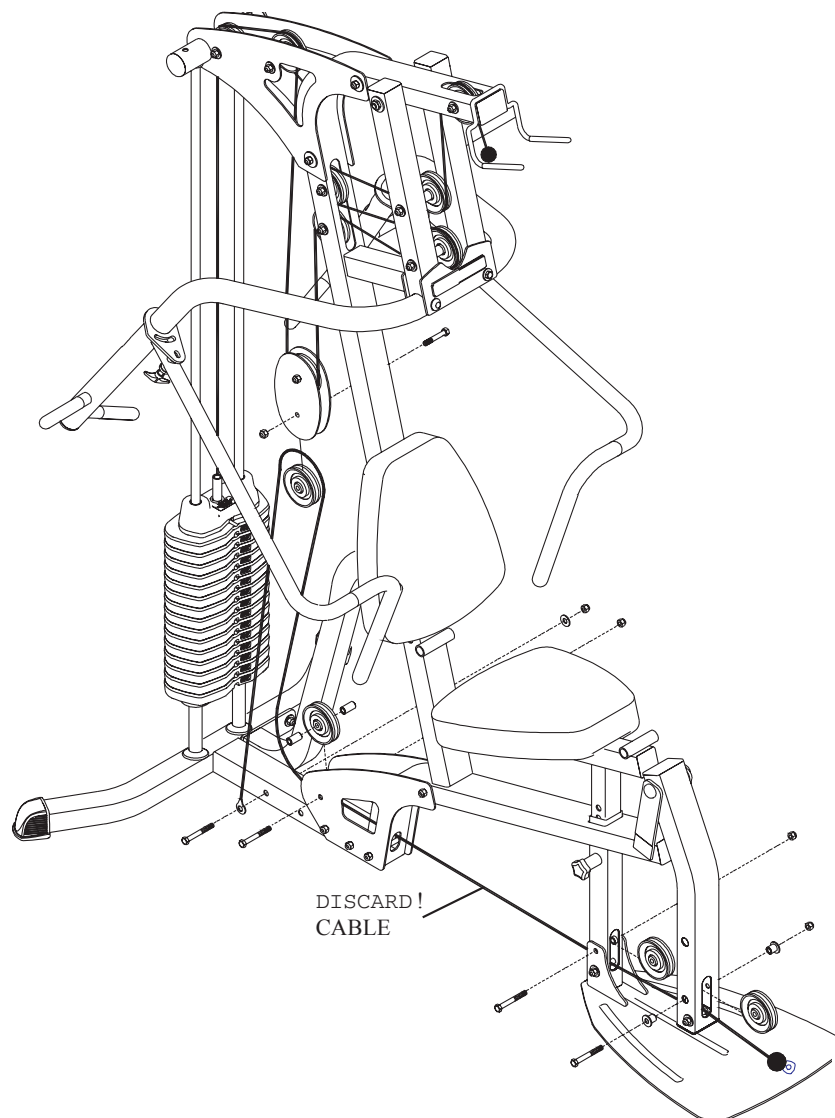

FIGURE 1
- Remove the bolts attaching the FRAME BRACE and CABLE to the BASE as shown in FIGURE 1
- Remove and discard the LEG CABLE by removing the bolts shown in FIGURE 1.